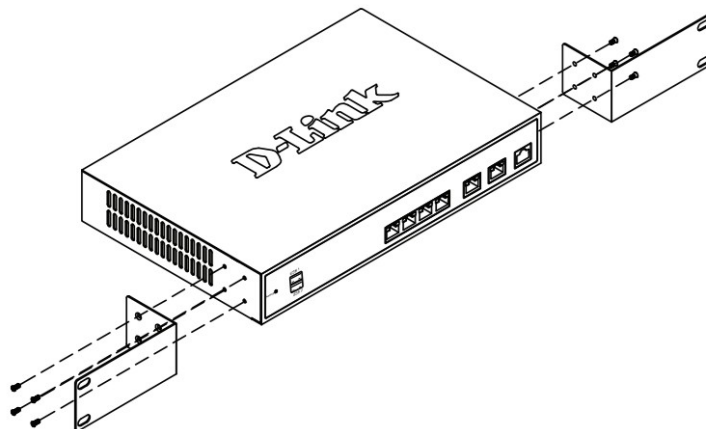

Figure 3. Attach the Rack Mount Brackets
1. Attach the mounting brackets to each side of the chassis as shown in Figure 3 and secure them with the screws provided.